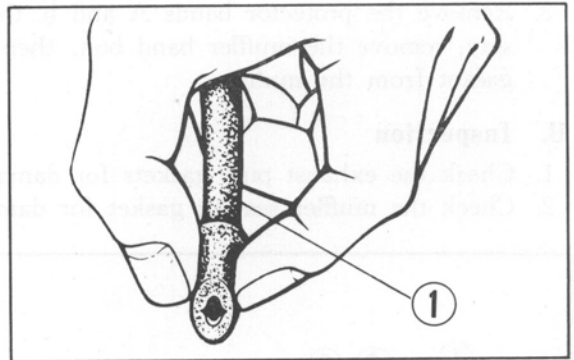

Fig. 2-14 ① Drain tube
6. Squeeze the end of the drain tube as shown Fig. 2-14 and drain the oil or water which may remain in the tube.